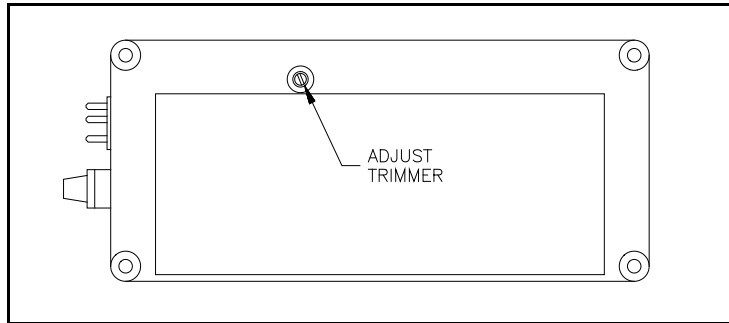

Figure 9. Bottom of Foot Control
- 6.1 The slow speed trimmer is adjusted with a small screwdriver through the hole in the base cover. See Figure 9. Place the foot control upside down on a bench. Depress the pedal slowly until the motor just starts rotating. Hold the pedal in this position and turn the trimmer to select the desired speed.